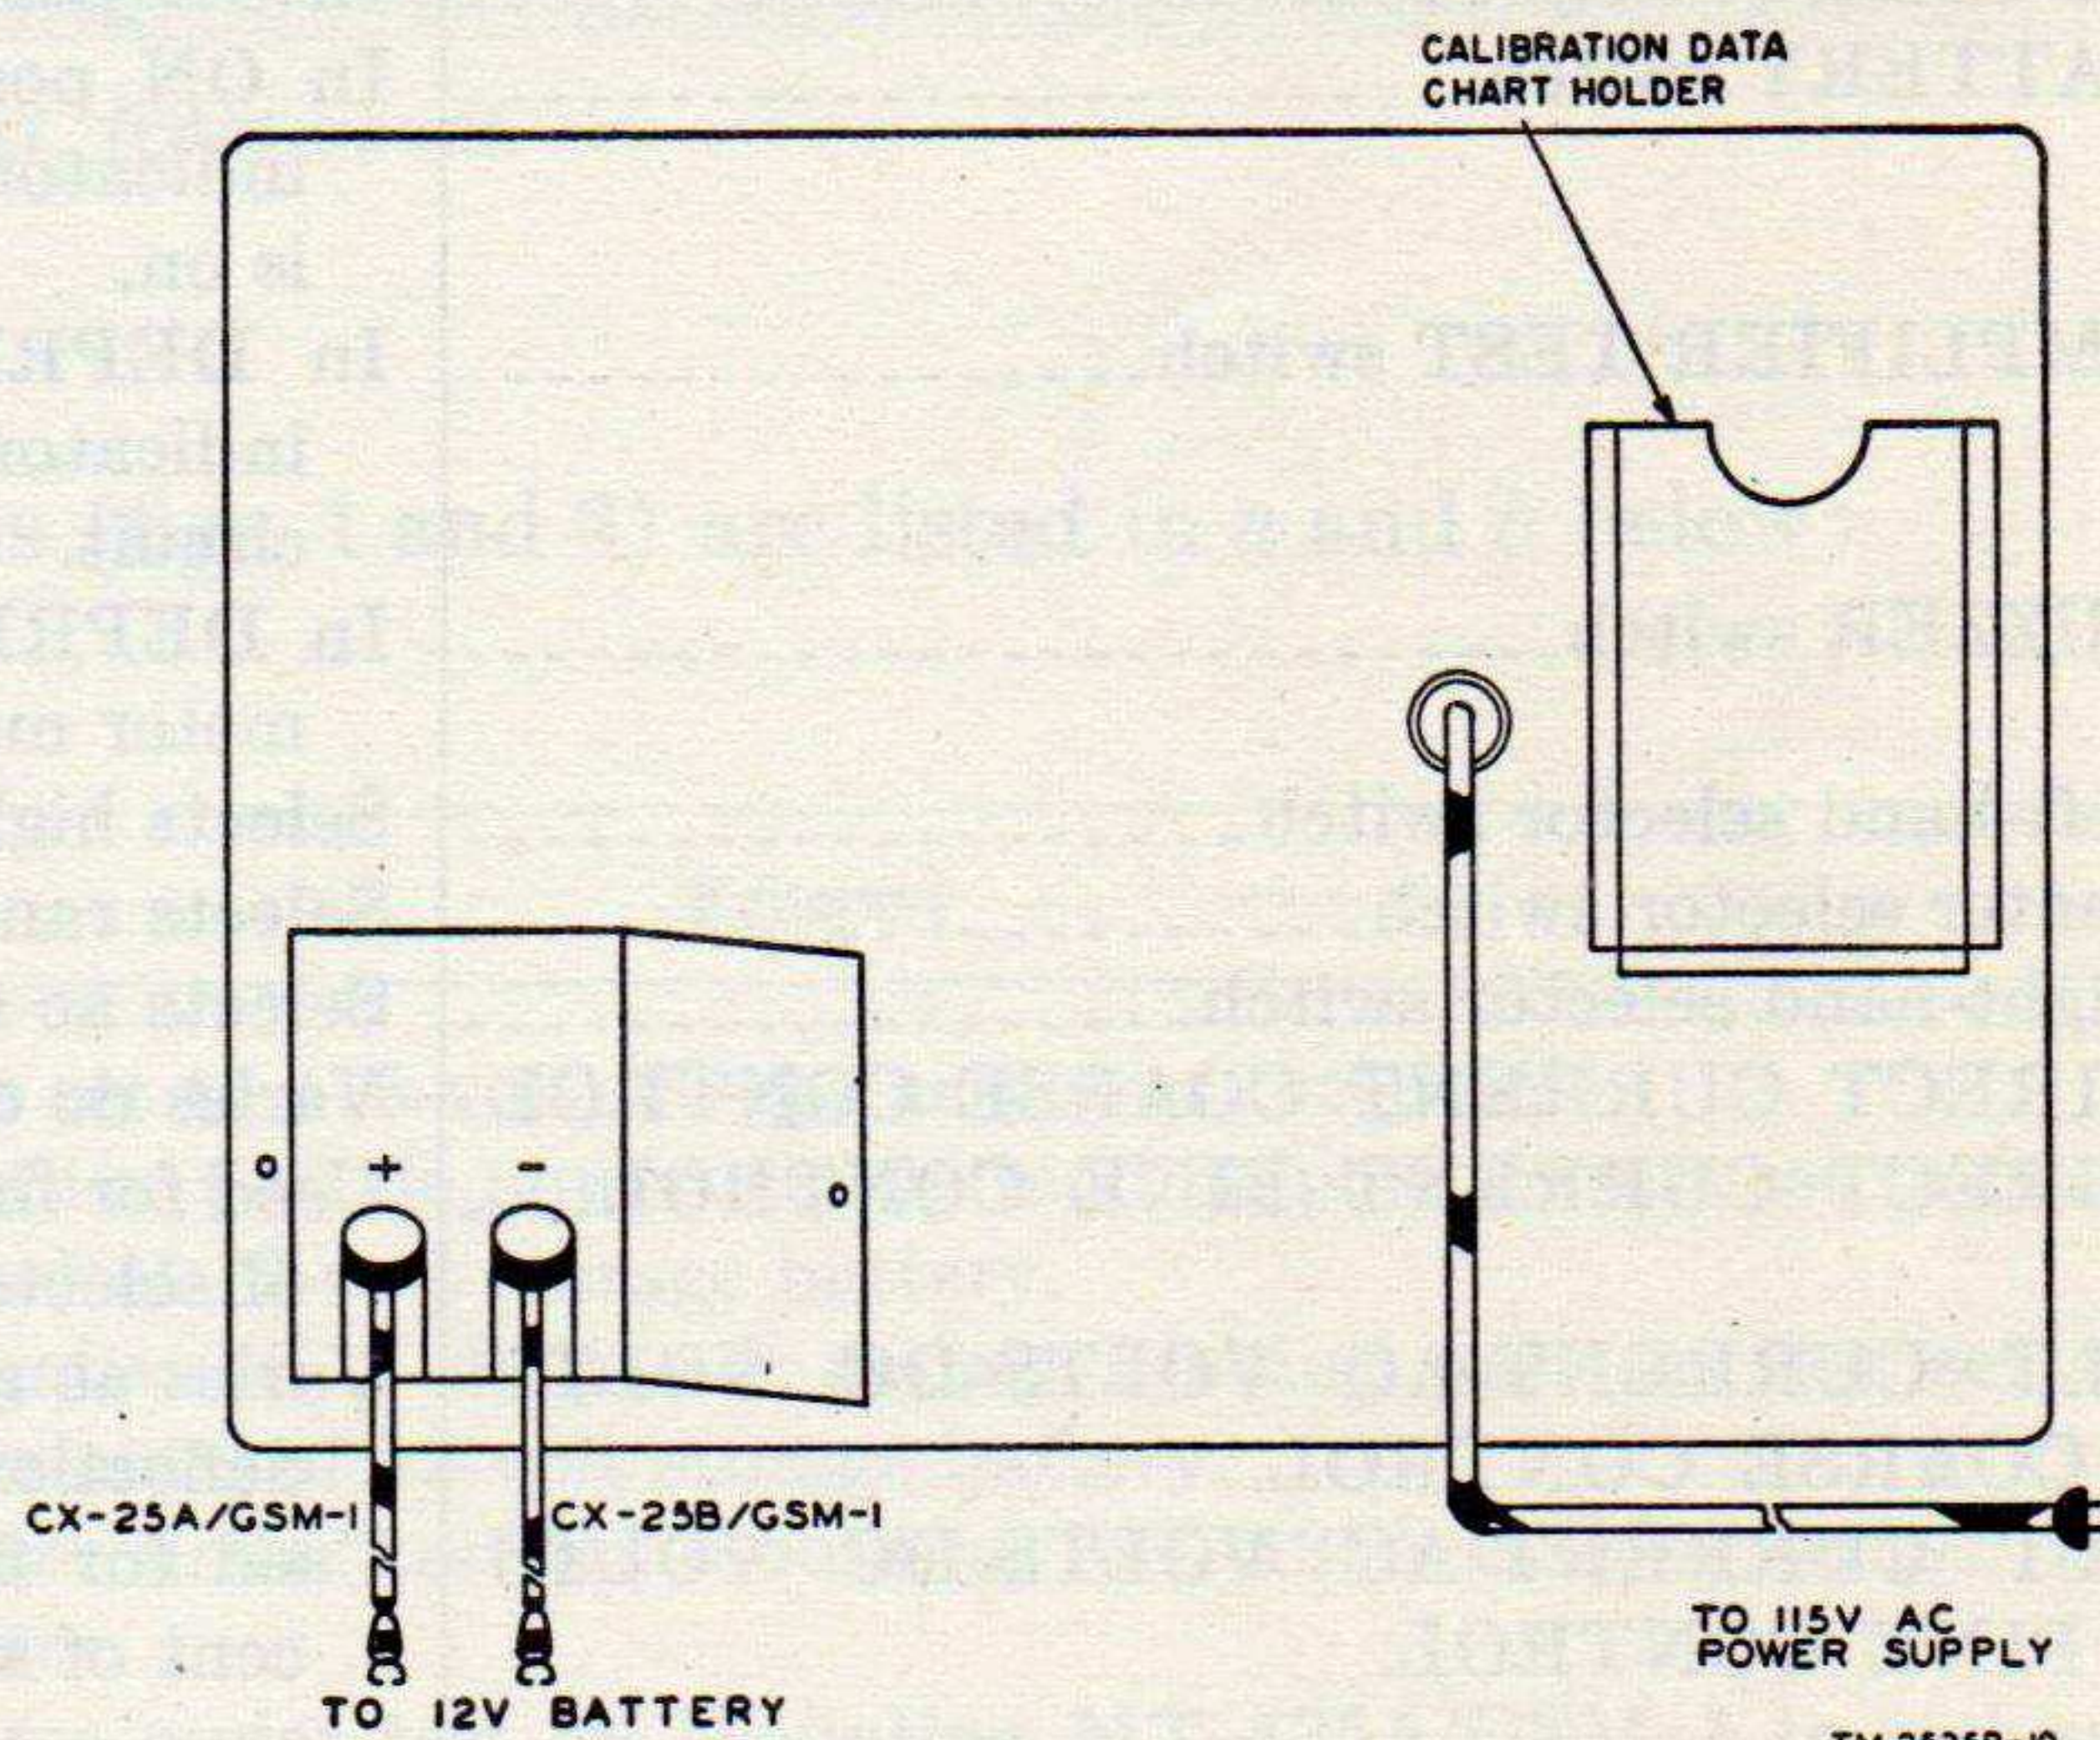

Figure 6. Rear of test set showing battery and ac power supply connectors.
(2) The ac power cord is located at the rear of the test set (fig. 6). Binding posts for connection of an external 12-volt storage battery can be reached through a door in the rear panel. A pocket mounted on this
b. Connect the 12-volt storage battery to the binding posts just inside the door on the rear panel of the test set (fig. 6).
- (1) Connect the spade-type terminal of Cord CX-25A/GSM-1 (positive) to the positive (+) binding posts; connect the bat-